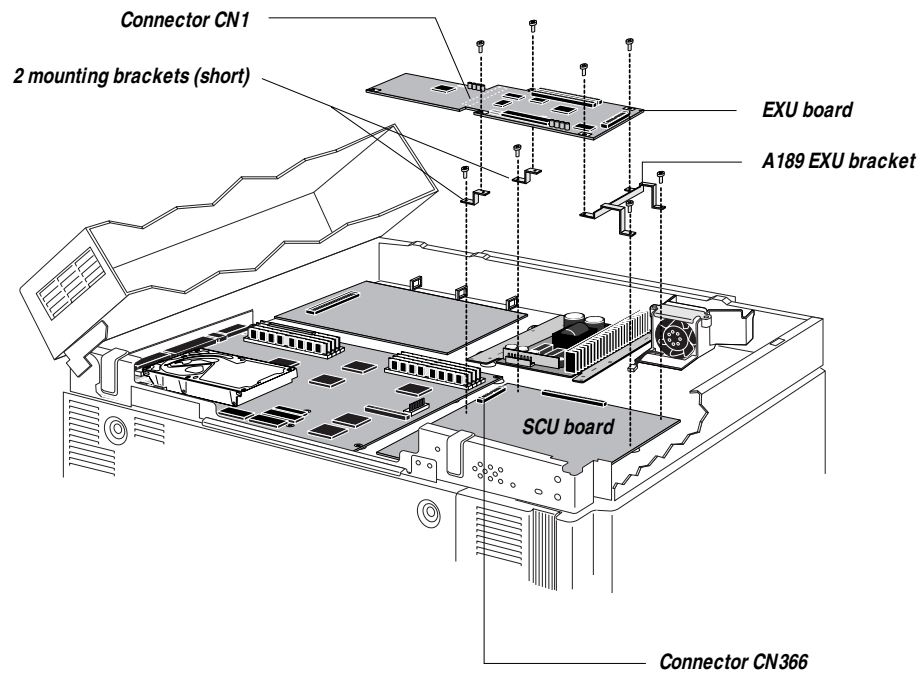

Figure 3-16 Installing the EXU and brackets
**2. Place the A189 EXU bracket as indicated in Figure 3-16 on page 3-18.**
This kit contains two short brackets and one long bracket. The two short brackets must be installed as indicated in Figure 3-16. The long bracket is not used in A189 installations.
**6. Insert four of the mounting screws (M 3x5 Phillips pan-head) into the mounting holes on the EXU board (see Figure 3-16 on page 3-18).**